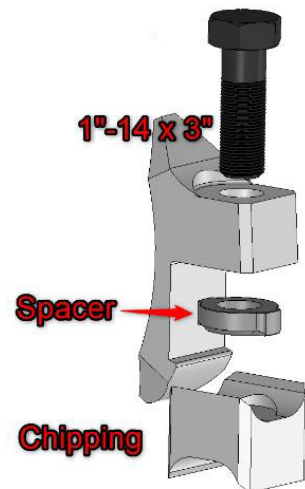

Figure 11
Chipping teeth are installed with a spacer. The spacer can sit only one (1) way. See Figure 11.
Bolts for chipping teeth are 3" (76 mm) long [Figure 11] and must be torqued to 400 lbf·ft (542 N·m).